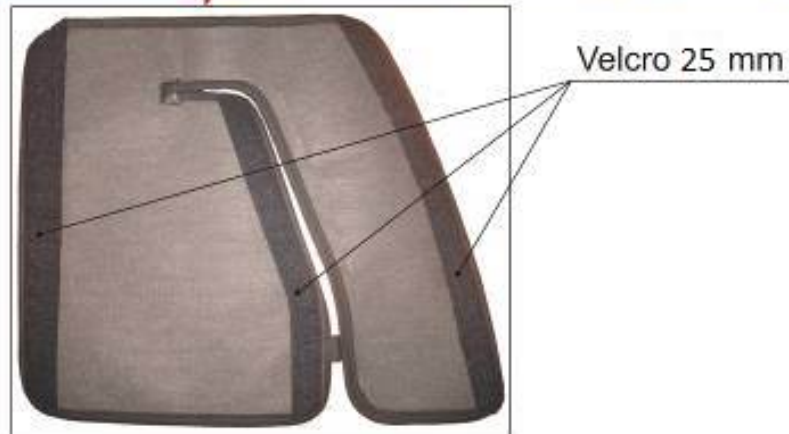

Fig. 25-00-5
B. Carpets Removal and Installation (Fig. 25-00-5).